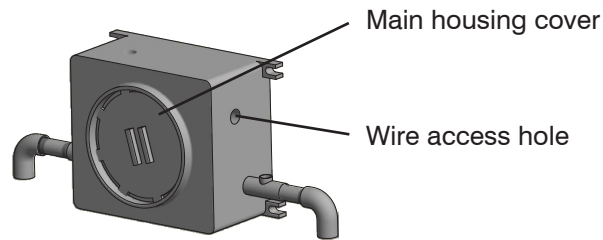

Figure 5
4. Open the main housing cover, and unplug the wire-access hole (figure 5).